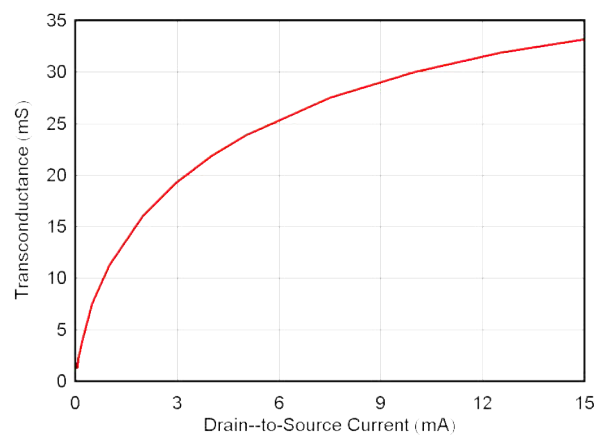
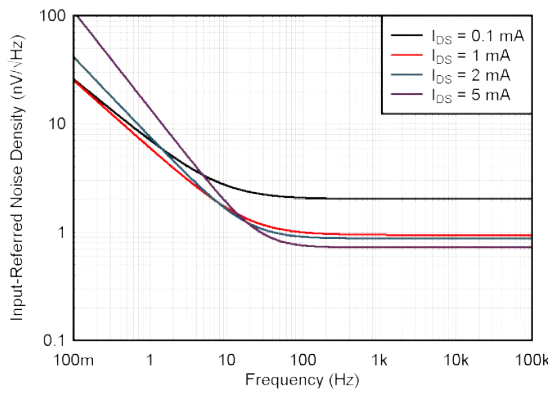
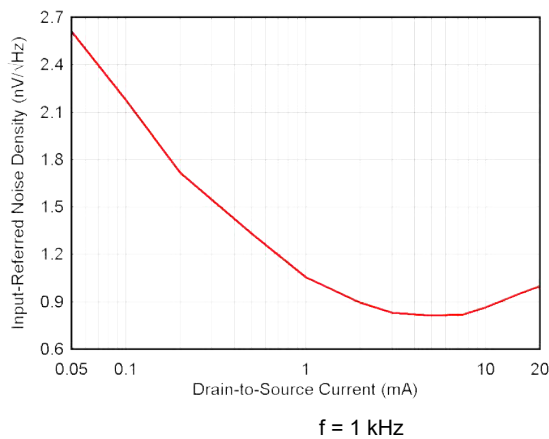
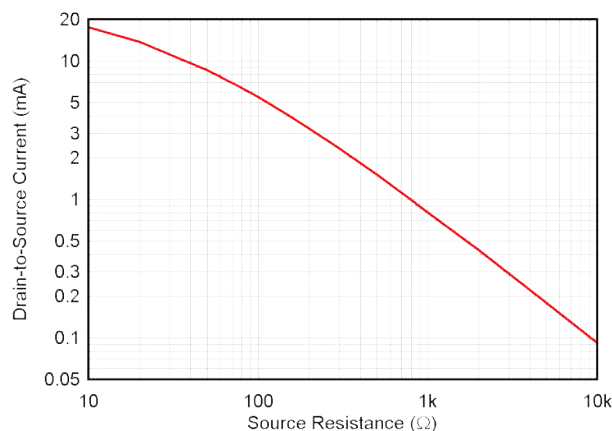

Figure 6-4. Common Source Transconductance vs Drain-to-Source Current
Figure 6-9. Input-Referred Noise Density vs Frequency
Figure 6-11. Input-Referred Noise Spectral Density vs Drain-to-Source Current
Figure 9-3. Drain-to-Source Current vs R_S , $V_{DS} = 5 \text{ V}$
Designs that feature operational amplifiers (op amps) as the primary gain stage are common, but these designs are not able to achieve the lowest possible noise as a result of the inherent challenges and tradeoffs required from a full operational amplifier design. Noise in JFET designs can be evaluated in two separate regions: low-frequency flicker noise and wideband thermal noise. Flicker, or $1/f$ noise, is extremely important for systems that require signal gain at frequencies less than 100 Hz. The JFE150 achieves extremely low $1/f$ noise in this range. Thermal noise is noise in the region greater than 1 kHz and depends on the gain, or g_m , of the circuit. The g_m is a function of the drain-to-source bias current; therefore, thermal noise is also a function of drain-to-source bias current. Figure 6-9 shows both $1/f$ and thermal noise with multiple bias conditions measured using the circuit shown in Figure 7-1.
Generally, higher gain results in improved noise performance. Gain increases as the bias current is increased as a result of increasing g_m (see Figure 6-4). As a result, the input-referred noise decreases as bias current is increased (see Figure 6-9). Any JFET design must make a tradeoff between current consumption and noise performance. The JFE150, however, delivers significantly lower noise performance than most operational amplifiers at the same current consumption. The bias current (I_{DS}) is set by the value of the source resistor, R_S , and the threshold voltage, V_T , of the JFE150. Figure 9-3 is a graph showing nominal I_{DS} vs R_S .
R_S	Source resistor. Used to set bias of JFET; see Figure 9-3. Resistor thermal noise directly impacts noise performance.
- The JFE150 bias current is set by selecting the desired bias current and noise tradeoff (see Figure 6-11). The input-referred noise is dominated by the JFE150 bias current and gain. To set the bias current point, adjust the source resistance according to Figure 9-3.